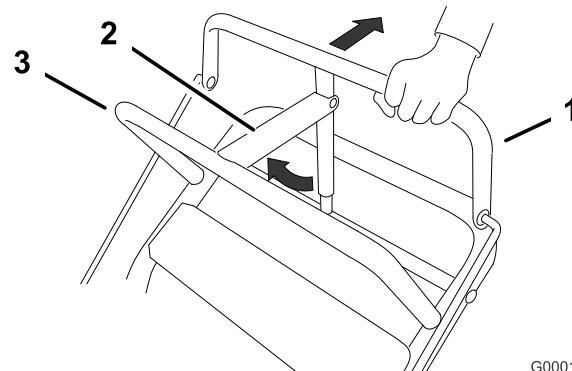

Figure 7
1. Pull the upper control bar rearward and hold it in this position (Figure 7).
2. Lift the parking brake lock up and gradually release the upper control bar. The brake lock should stay in the set (locked) position (Figure 7).